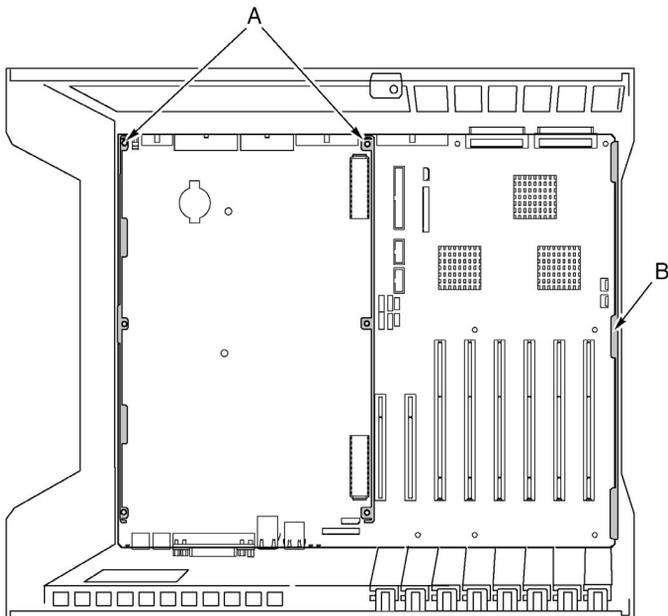

Figure 25 - Mainboard mounting
- 9 Remove the six screws, the plastic overlay, and the two processor board mounting brackets that attach the mainboard to the electronics bay (Figure 25, A).
- 11 At one side of the chassis, the board is inserted into slots in a foam panel (Figure 25, B). Lift up on the opposite end of the board and pull the edge of the board out of the slots in the foam panel.
- 1 With the rear of the electronics bay closest to you and the mainboard oriented so that the I/O connectors line up with the cutout in the back left of the chassis (Figure 25), lower the right end of the mainboard into the electronics bay and slip the board edge into the slots of the foam panel (Figure 25, B).
- b The six mounting holes on the mainboard (Figure 25, B) are aligned with their corresponding threaded standoffs in the floor of the electronics bay.